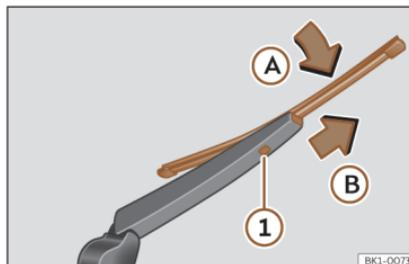

Fig. 146 Changing the rear wiper blade
- Turn the blade slightly >>> Fig. 146 (arrow **A**).